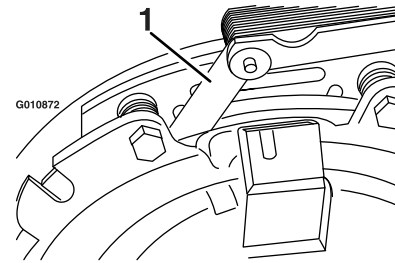

**Figure 80**
- B. Using needle-nose pliers, or by hand, hold the tab and remove the shim (Figure 80).
Remove any buildup of grass, dirt, or other debris from the engine screen. This helps ensure adequate cooling and correct engine speed and reduces the possibility of overheating and mechanical damage to the engine (Figure 80).